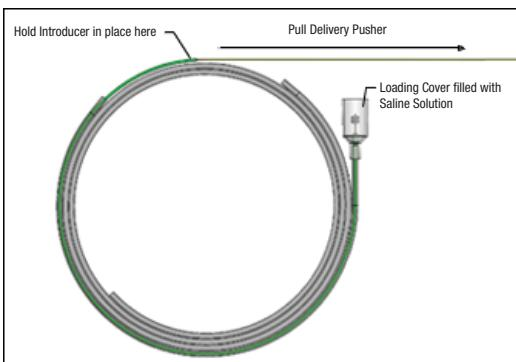

Figure 5 – Pull Delivery Pusher in Proximal Direction to Retract Implant
- With one hand securing the green introducer, grab the delivery pusher and gently pull proximally to begin retracting the implant, See Figure 5.